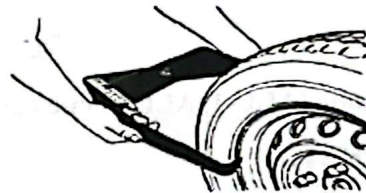

Fig.2
- Use width gauge to read the value of width (Fig. 2), press **b+** and **b-** to change, set "b" value.